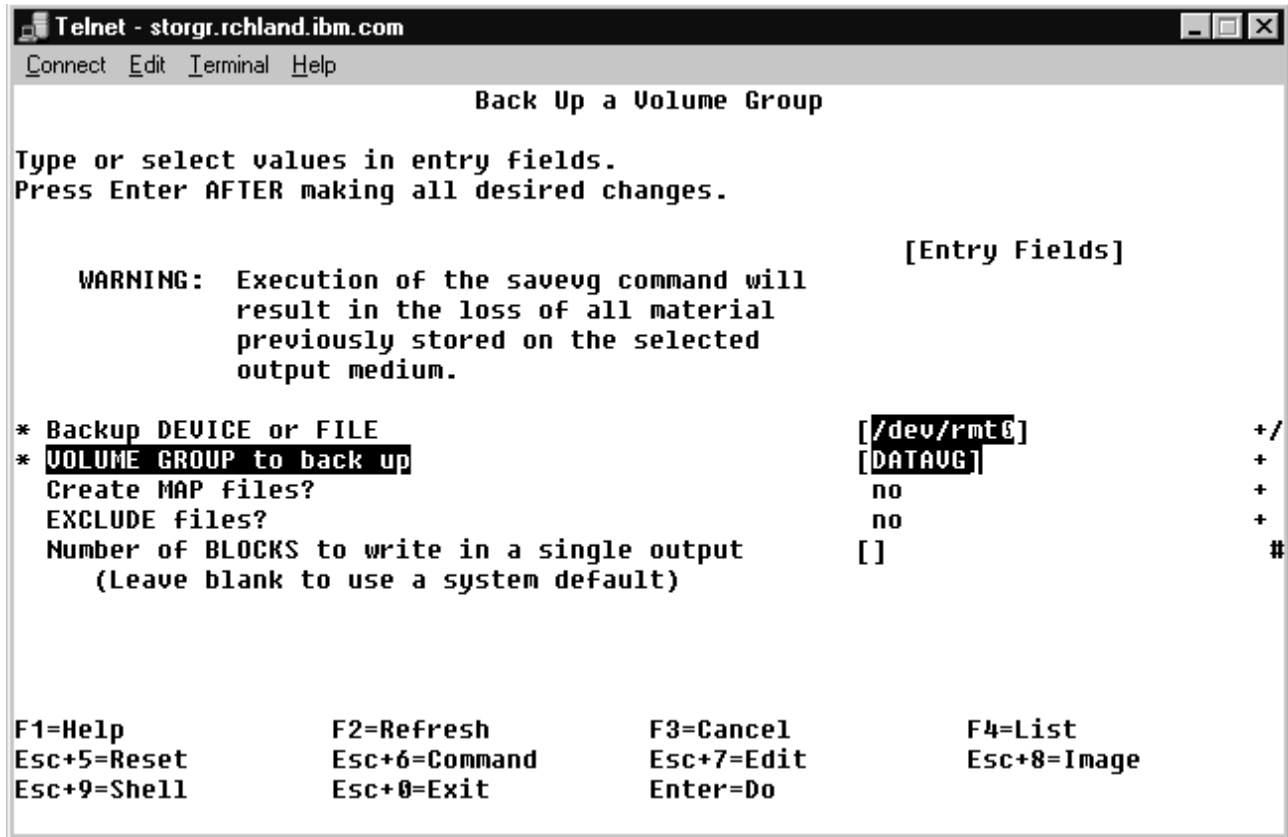

Figure 81. Back Up a Volume Group SMIT Screen
6. Fill in the Back Up a Volume Group screen as shown on Figure 81.